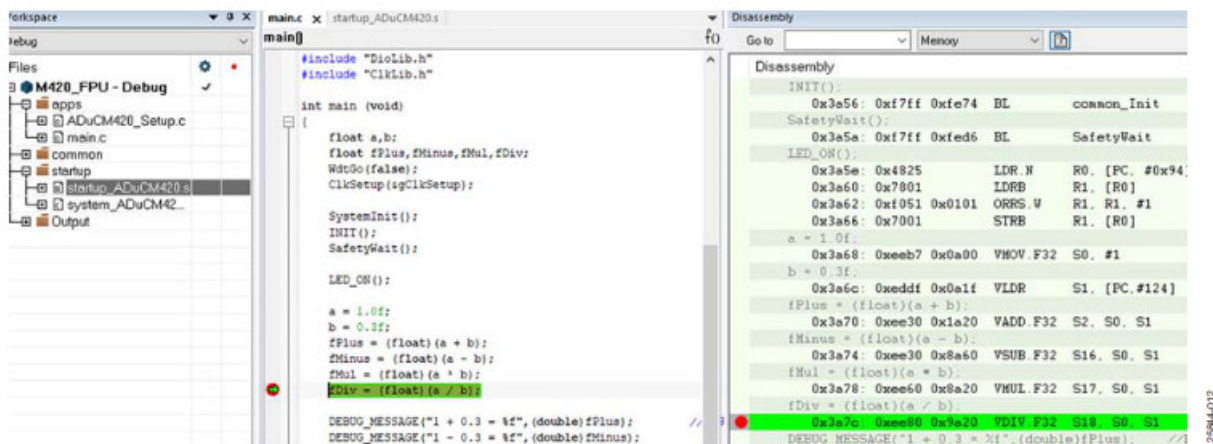

Figure 27. IAR FPU Example Program Output
- After setting the Floating point settings options, run the FPU example program. Running the debug mode causes the Output section in the Terminal I/O window to display fractional values of the variables, as shown in Figure 27.